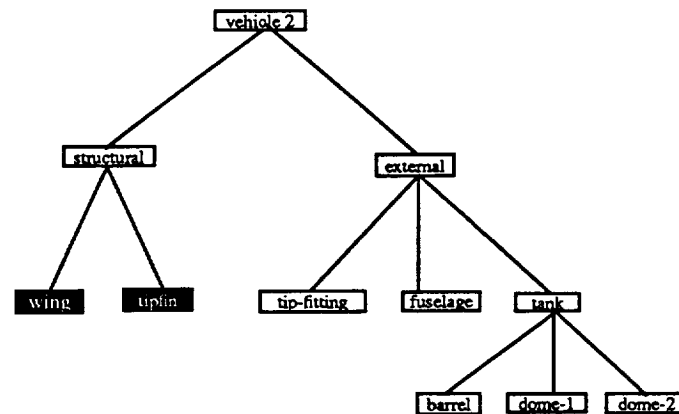

FIGURE C.26. Tree for *vehicle2*. Compressed nodes shown in reverse video.
1. Enter FILE Mode. Read the SMART file that is named *vehicle2*. As shown in figure C.26, the tree that appears in the View Window is organized into two top-level groups of components: